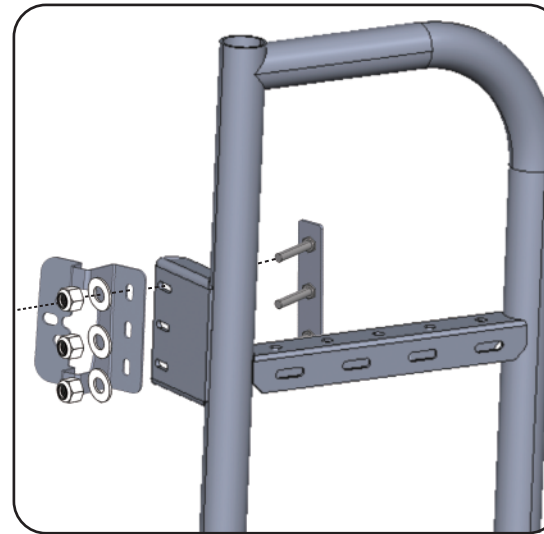

FIG:17
7.2 **Hinge Mounts:** With assistance, raise the carrier up to the door and use the **Triple Bolt Plate** and **M8 Nylock Nuts** to secure the Rack onto the top and bottom Hinge Brackets. (**FIG 17 &18**) (only loosely tighten still)